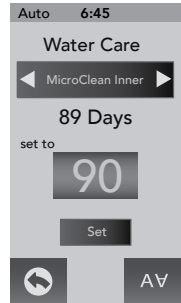

Figure 12.7f
A programmable filter timer can be set to remind you when to replace the MicroClean Inner Filter. Tap  (Figure 12.7e) until you reach the “MicroClean Inner” tab to enter the Programming Menu, Figure 12.7f.
- From the “Water Care” Menu you can to set the MicroClean Inner timer, Figure 12.7f.